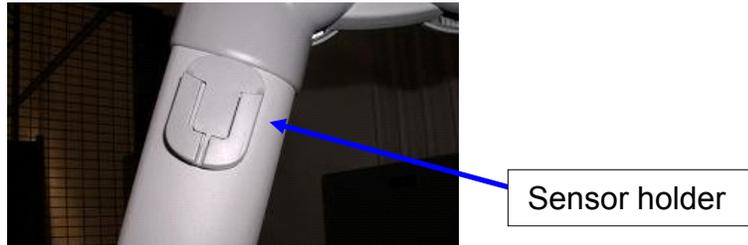

Figure 30
6. Attach the sensor holder to the articulating arm by peeling off the tab and exposing the sticky tape (see Figure 30 on page 21).